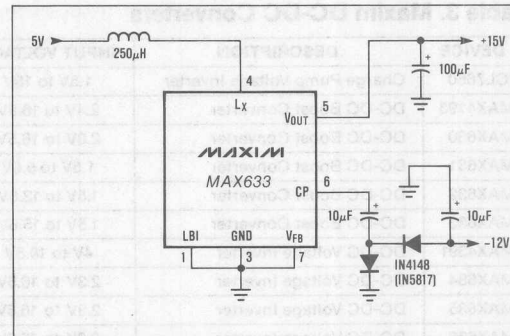
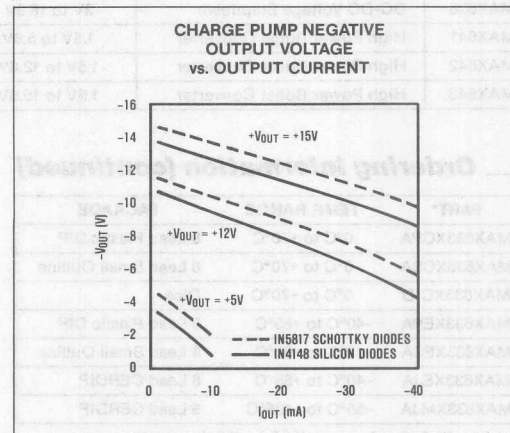

Figure 4. +5V to +15V/-12V Converter
Figure 5. Charge Pump Negative Output Voltage vs. Current
Both positive and negative output voltages can be generated with only one inductor when the charge pump (CP) output is connected as shown in Figure 4. The circuit provides approximately ±10mA with V_{OUT} = +15V, (MAX633), and ±15mA if V_{OUT} = +12V (MAX632). The negative output is about 3V less than V_{OUT} due to the forward voltage drop of the 1N4148 diodes and the output impedance of CP. Using Schottky diodes (IN5817) will increase the negative output by about 1V. The performance of the CP output is shown in Figure 5.